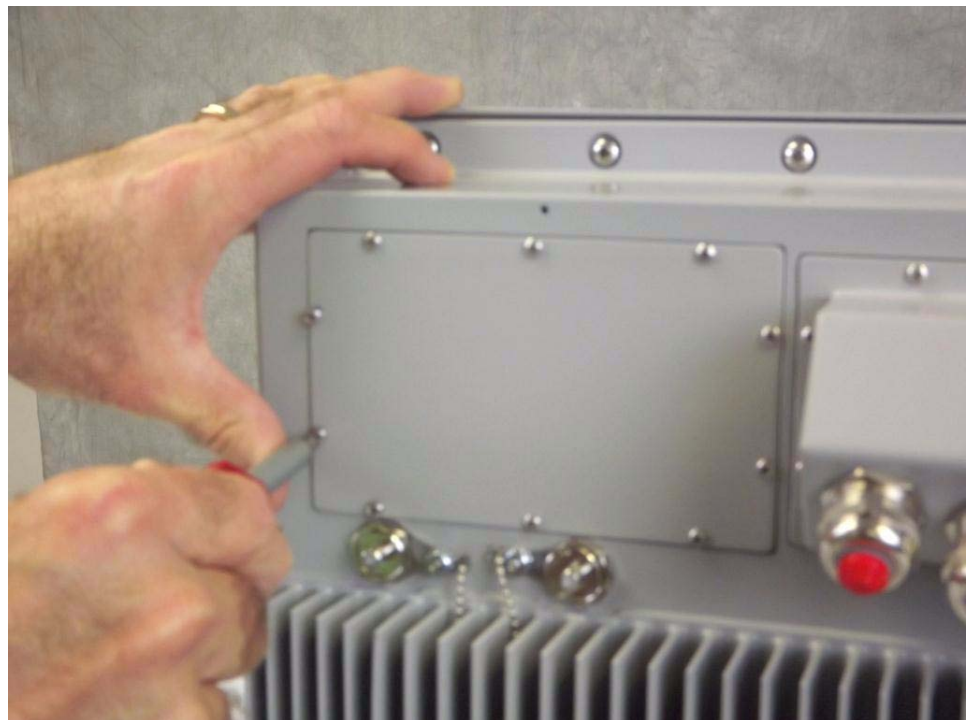

Figure 7.14 Remove the SSD Cover Plate
1. Loosen the ten (10) each 4-40 captive screws securing the SSD cover plate in place, and remove the cover. See Figure 7.14.